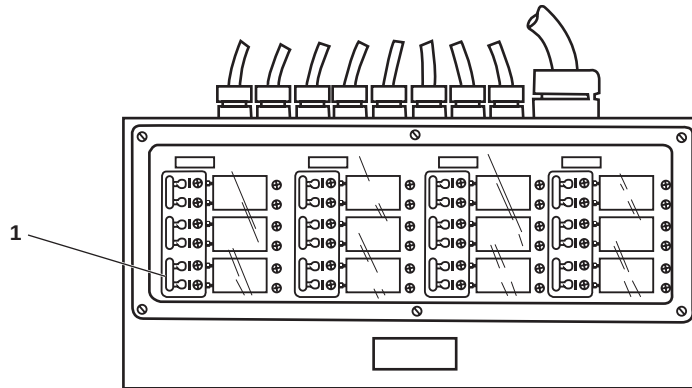

Figure 4. Machinery DC Control Distribution Panel
1. Set to OFF the FUEL OIL DAY TANKS (P&S) HIGH LEVEL ALARM circuit breaker (figure 4, item 1) at the machinery DC control distribution panel. Lock out and tag out (FM 55-502).